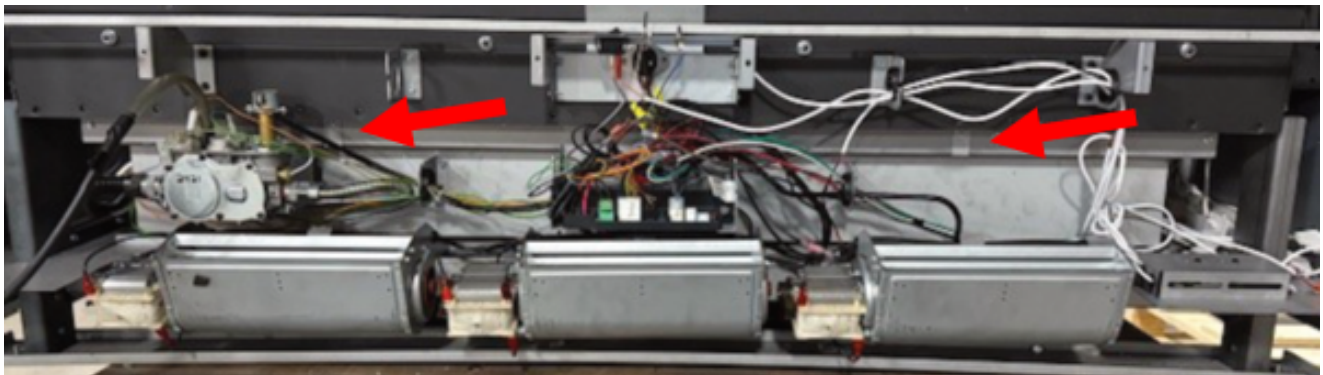

Figure 1.4 - LED Deflector
- When installing the power vent wire harness you may find it helpful to remove the LED deflector temporarily. See Figure 1.4. There are (2) sheet metal screws that secure it to the bottom of the control board assembly. Reinstall deflector after wiring is complete.